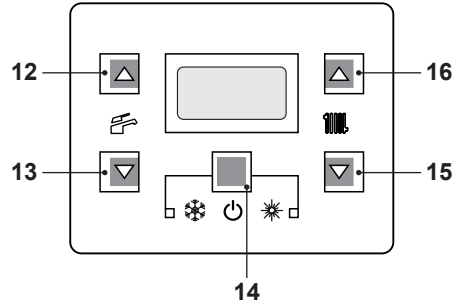
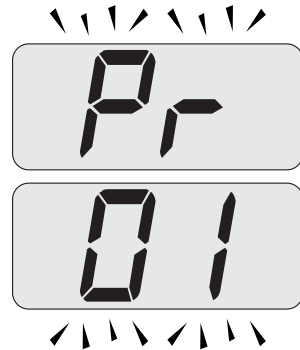
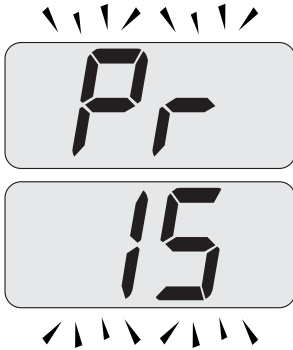
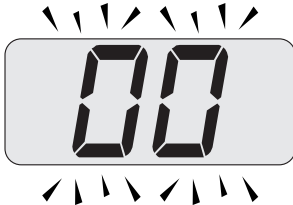

Fig. 7.20
Fig. 7.21
Fig. 7.22
Fig. 7.23
- Enter in "programming mode" by pressing keys 14 - 15 - 16 (Fig. 7.20) for 10 seconds at the same time until the letters **Pr** that alternate with code 01 are displayed on the LCD display, indicating that "parameter 01", has been activated (Fig. 7.21).
- Scroll the various parameters using keys 15 or 16 until the letters **Pr** that alternate with code **15** are displayed on the LCD display, indicating that "parameter 15" (Fig. 7.22) has been activated.
- Press keys 14 and 16 (Fig. 7.20) at the same time until the value of parameter 15 (Fig. 7.23) is displayed on the LCD display.
- By pressing key 14 (Fig. 7.20) confirmation of the inserted value is obtained.
- Press keys 14 and 15 (Fig. 7.20) at the same time to exit without changing the value (return to the parameters list Fig. 7.22).
- Press keys 14 - 15 - 16 (Fig. 7.20) at the same time for 10 seconds to exit the "programming mode".
However, if the ambient temperature is not comfortable, the flow temperature of the heating plant can be increased or reduced by  $\pm 15^\circ\text{C}$  by acting on keys 15 (reduce) and 16 (increase) (Fig. 7.20).